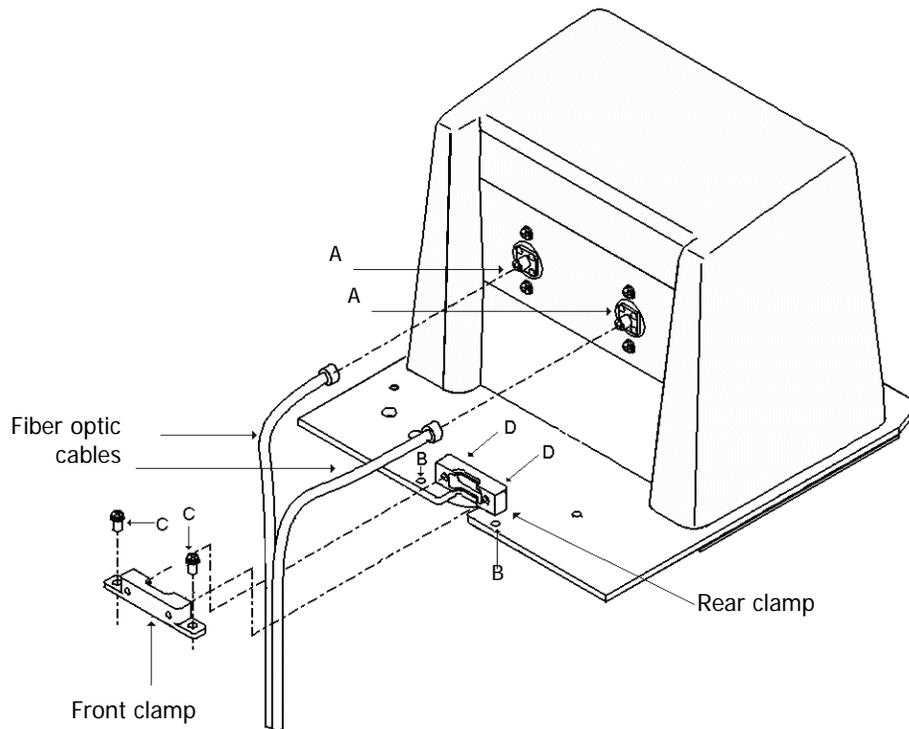

Figure 3 Installing the accessory
1. Taking care not to damage the faces of the fibers, screw the fiber optic cables into the connectors (labeled A in Figure 3).